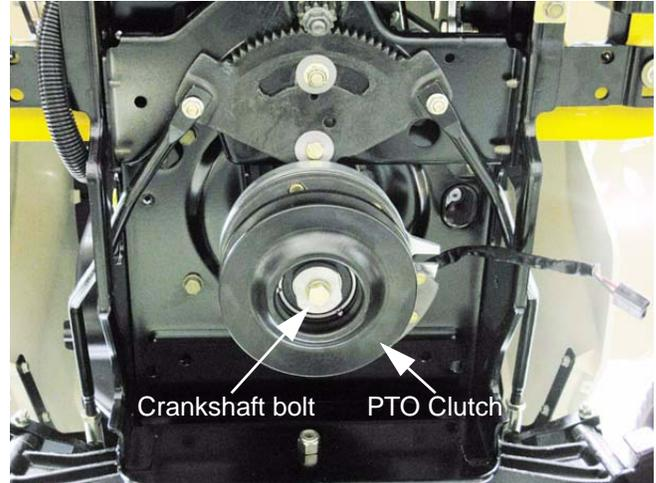

Figure 6.69
- C. Remove the bolt that holds the PTO clutch to the engine crankshaft using a 5/8" wrench. See Figure 6.69.